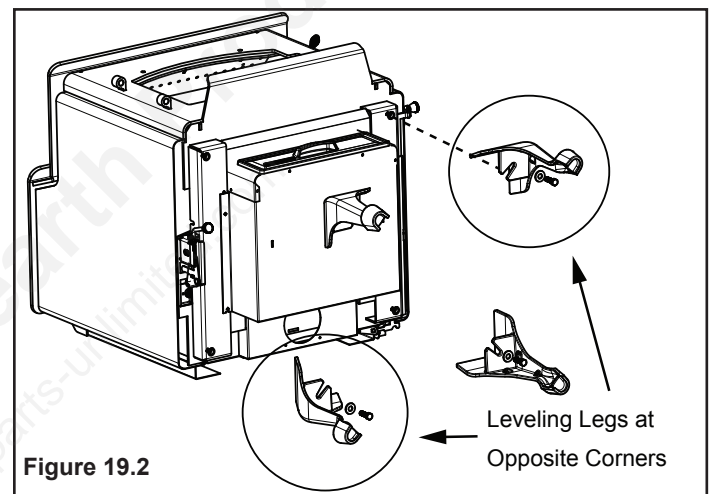

Figure 19.2
4. Install legs onto mounting brackets making sure the legs are up against the bracket and secure with bolts and washers using a 3/8 open end wrench (**Figure 19.2**).
5. Install leveling bolts into 2 legs; these leveling legs should be in opposite corners (**Figure 19.2**).